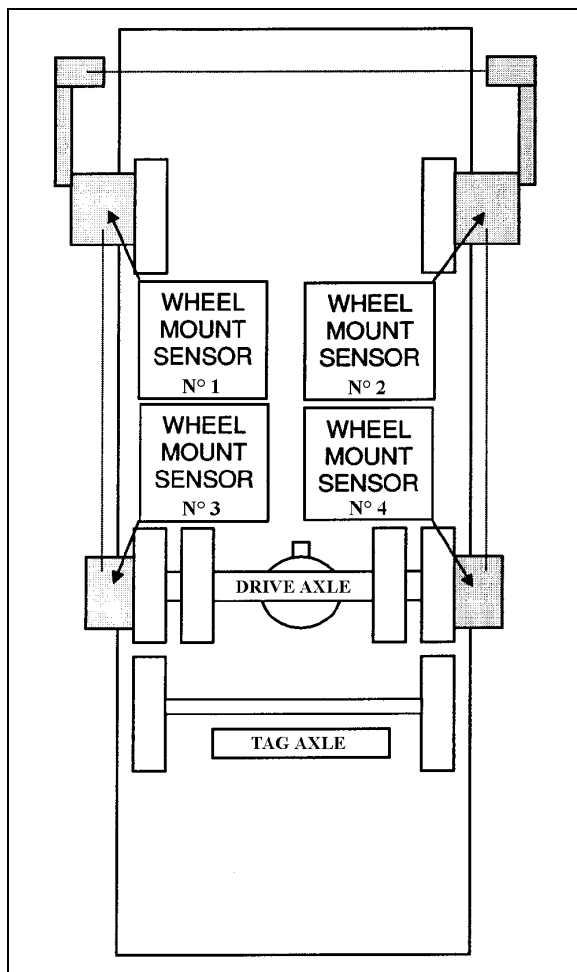

FIGURE 7: FRONT & DRIVE AXLE ALIGNMENT 11025
- With the system installed as in Figure 7, adjust drive axle according to specifications' chart below. Use static wheel alignment systems which work with angle measurements only, such as Josam or Hunter systems.
3. Install wheel mount sensors on front end and drive axle wheels (Figure 7).
See reference numbers on wheel mount sensors (Figure 7).